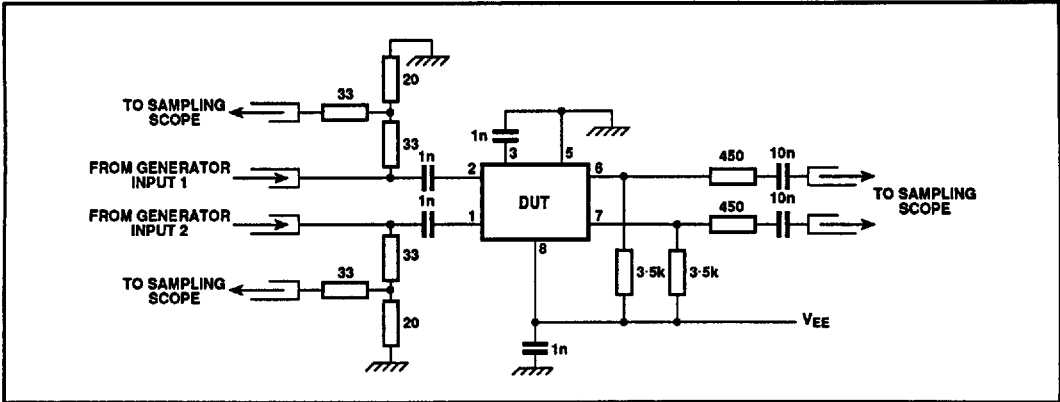

Fig. 5 Test circuit
2. The test configuration for dynamic testing is shown in Fig.5